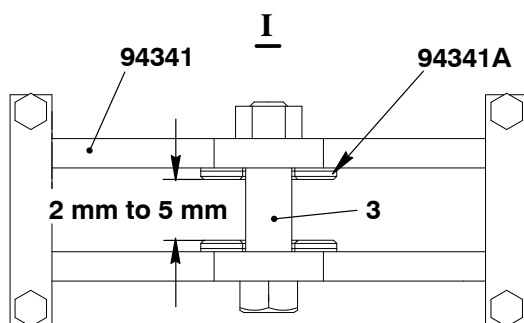

Fig. 5
16) Remove the piston rod gland (2) from the support (1).
18) Use water to clean the threads of the piston support device (94341, Fig.5).
19) Put oil on the threads and the surfaces of the four screws (1).
20) Attach the piston suspension device (94341) to the piston (2) with the four screws (1).
21) Torque the screws (1) to 60 Nm.